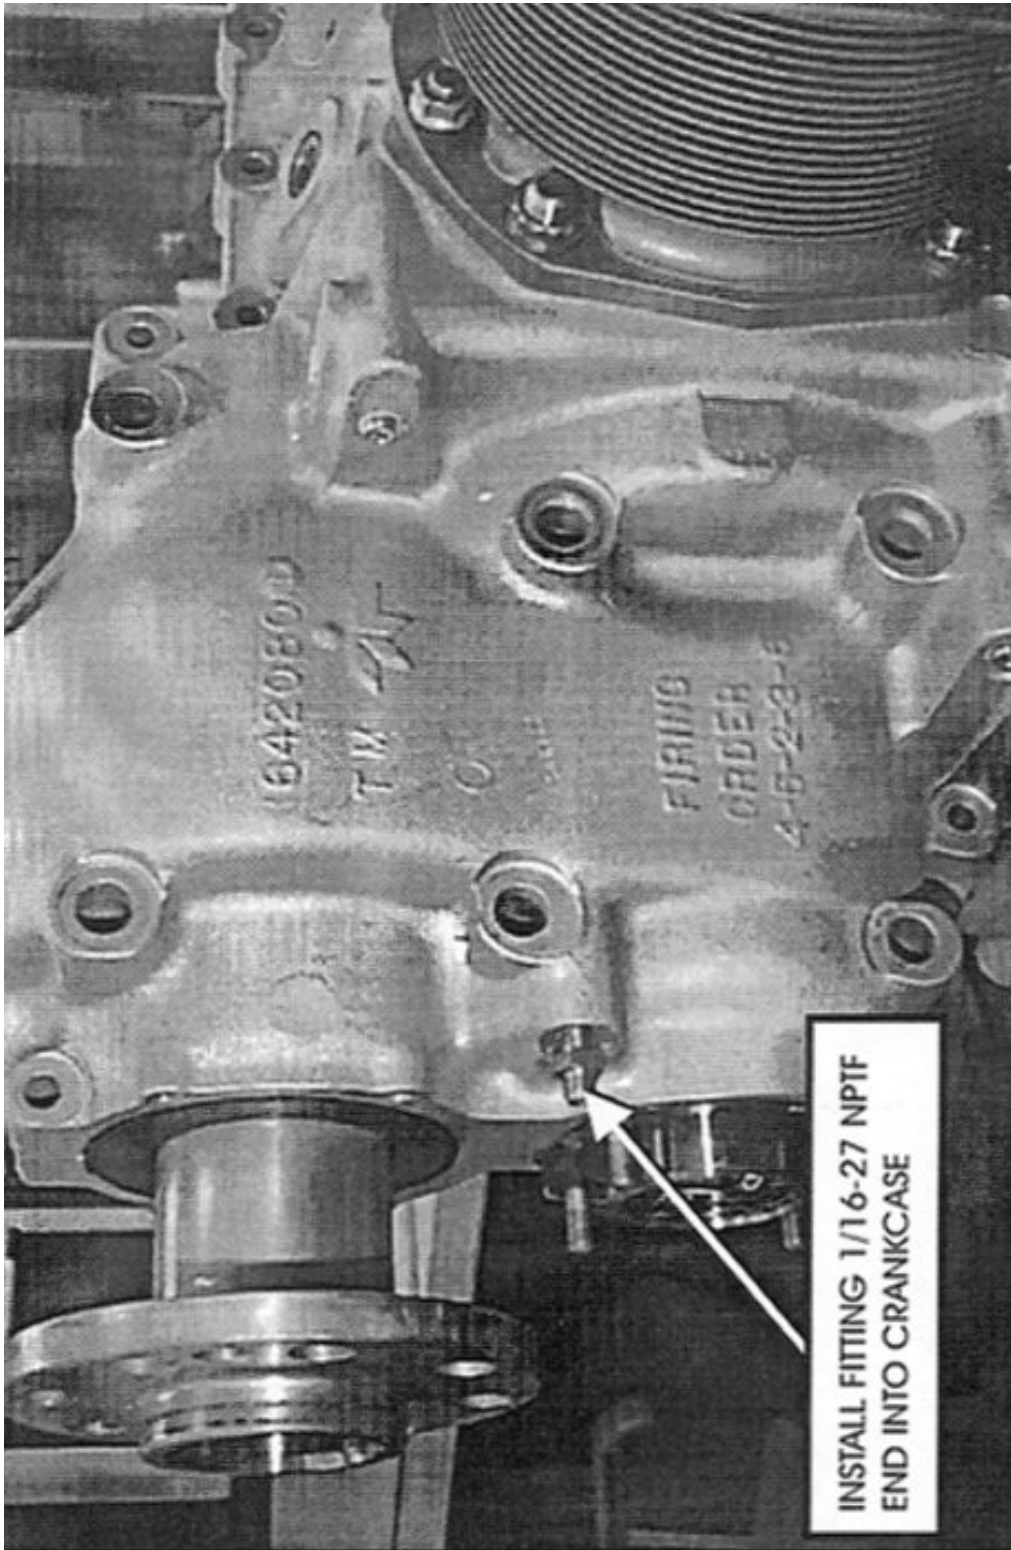

FIGURE 2
3. Install and tighten the fitting and tube assembly (supplied by TCM for use in connection with this service bulletin) to the crankcase as shown in Figures 2 and 3. Attach a sufficient length of hose to the tubing assembly to allow personnel to be positioned well clear of the propeller arc. Connect a calibrated 0 - 100 P.S.I. gage to the hose.